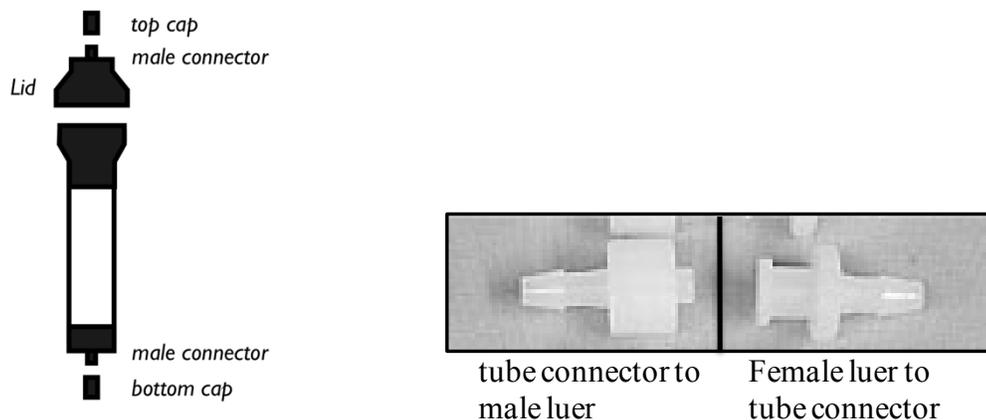

FIGURE 3 - Reusable glass column and luer adaptors. Tubing is attached to components of the LP system through male and female luer adaptors.
7. Attach the bottom cap to the column (Figure 3).
8. Unscrew the lid from the column and the top cap from the lid (Figure 3).
1. Place line (A) into filtered water. Place the *WASTE* lines into a waste container.
7. Detach the male and female luer connectors adjacent to the 6-way router. Water will slowly flow from the female connector (Figure 3).
- c. Attach the bottom cap to the column (Figure 3).
5. Unscrew the lid from the column and remove the top cap from the lid (Figure 3). Attach the female connector from which buffer is dripping to the column lid.
- b. Switch the LP system to the *sample-injection* configuration by rotating the 6-way router clockwise (Figure 3). Buffer now flows through the sample loop before entering the column.